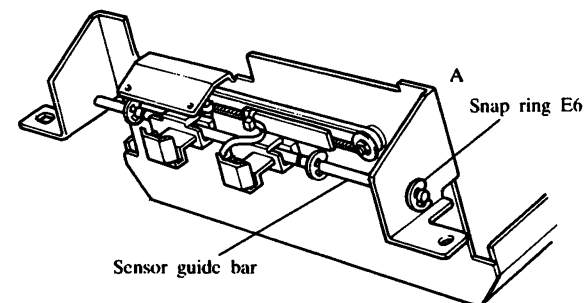

Fig. 25
- (1) Remove the snap ring E6 on the right side of Head frame. (Refer to A in Fig. 25)